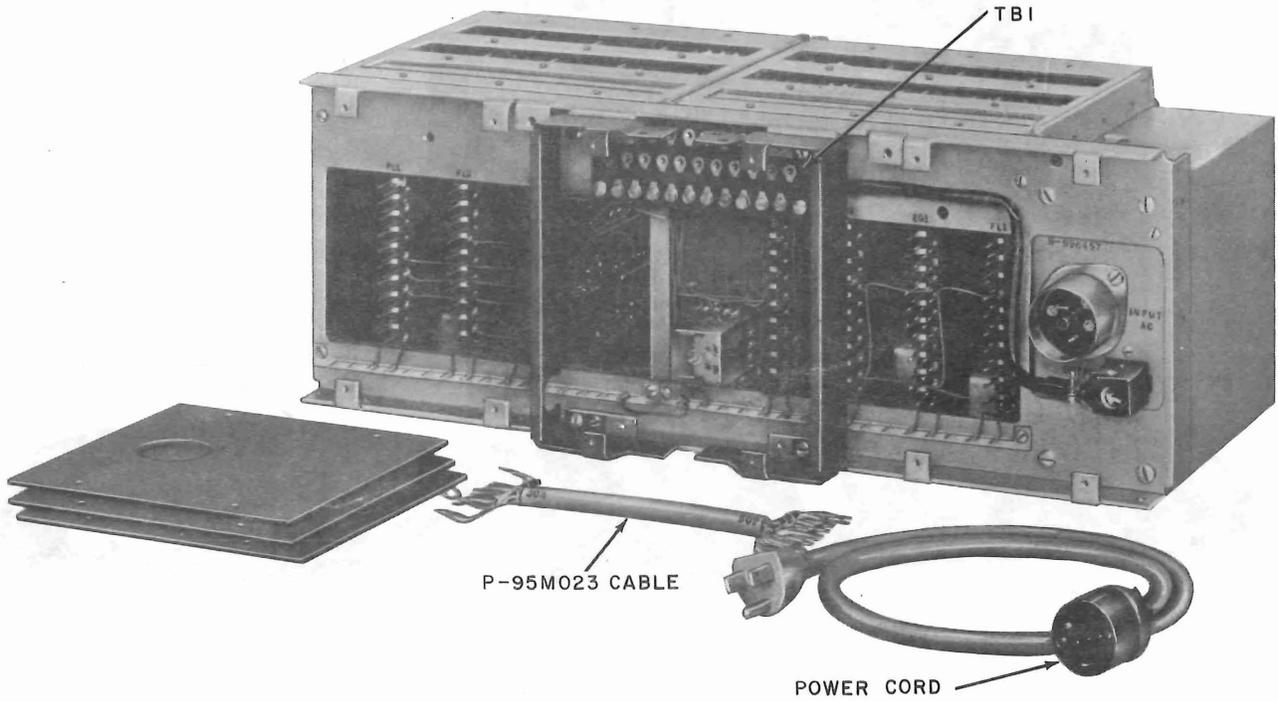

Fig. 6—Data Auxiliary Set 809B1—Rear View
2.10 Remove coverplate on back of DAS 809B1 (Fig. 6) to gain access to connector blocks. This set requires no option connections for Echo-Fox application.